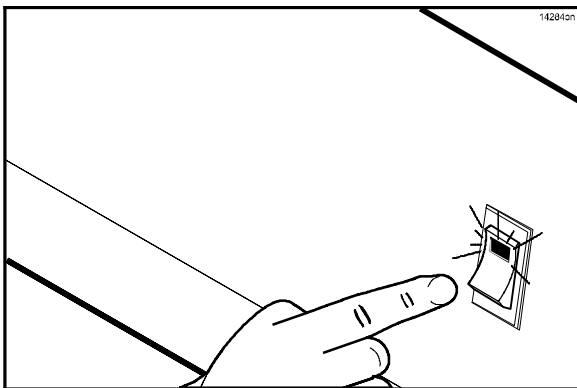

Figure 13
2. Place the fan interlock switch in the ON position. The controller will display the message “OFF”. (See Figure 13.)